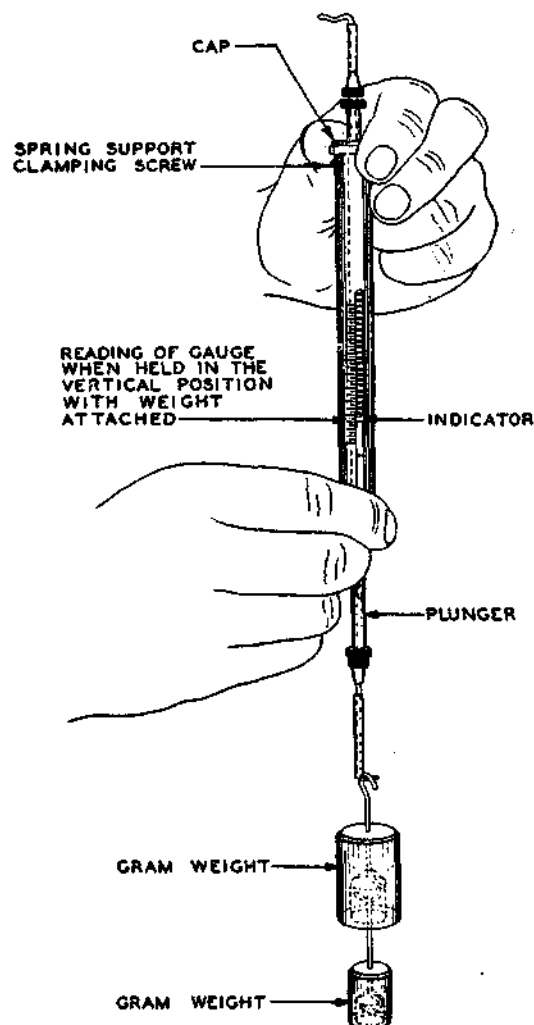

Fig. 8 - Method of Checking Accuracy of a Coil-type Gauge
**2.06 Plunger Assembly Position (Nos. 79D, 79E, and 79F Gauges Only):** Fig. 8(A) -
weights, equivalent to the checking values specified in the table, to the plunger by means of the hook on the weight as shown in Fig. 8 and note the reading on the gauge. The reading should check within the limits specified with the value of the check weight added to the weight of the plunger.